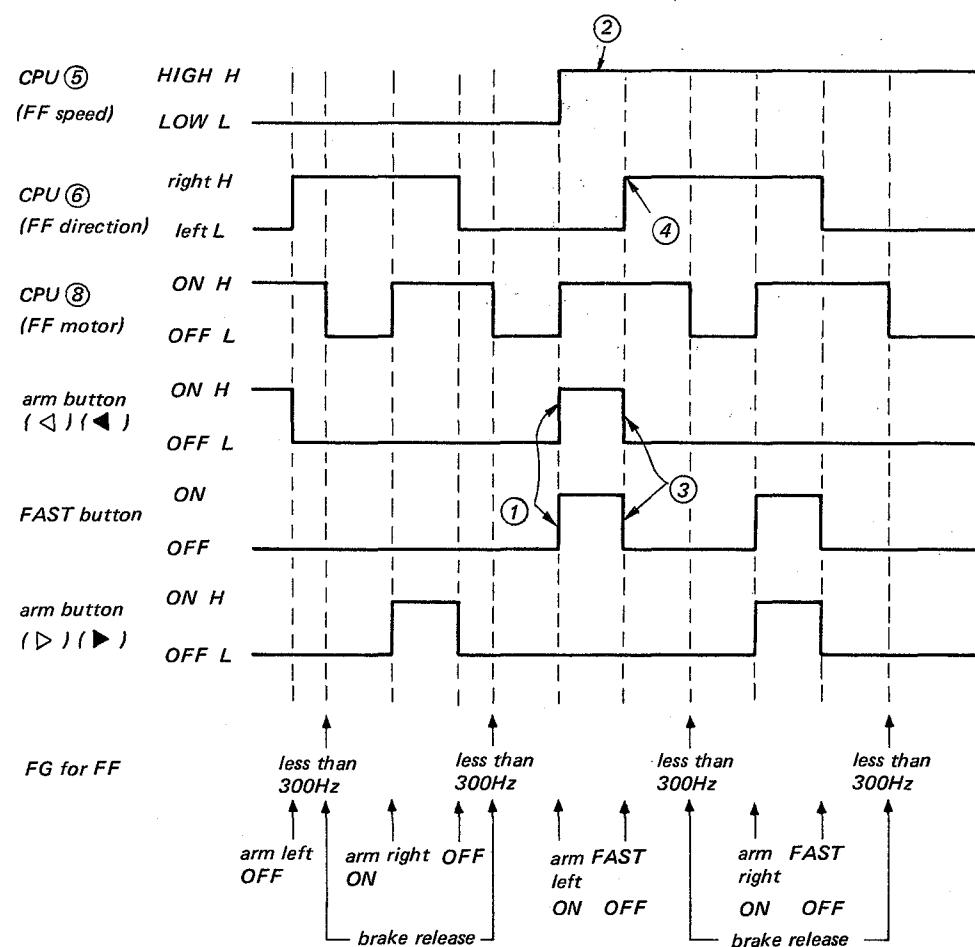

Fig. 23
**3-1. Explanation of ①②③④ on the Brake Timing Chart on Fig. 23.**